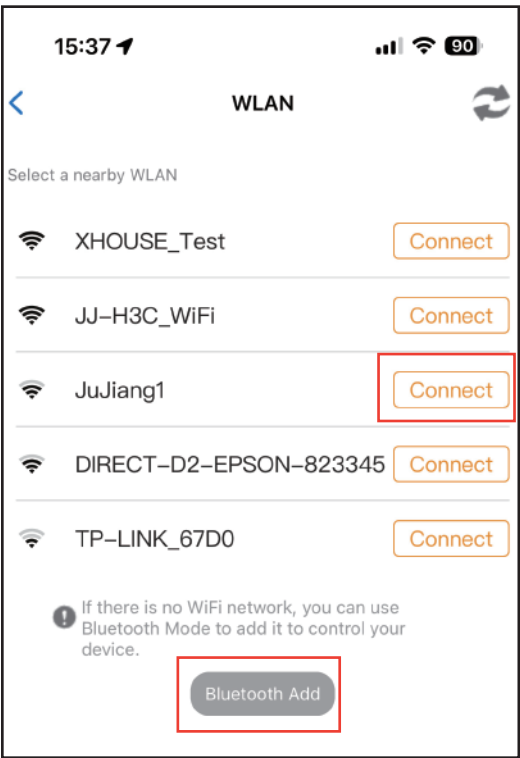
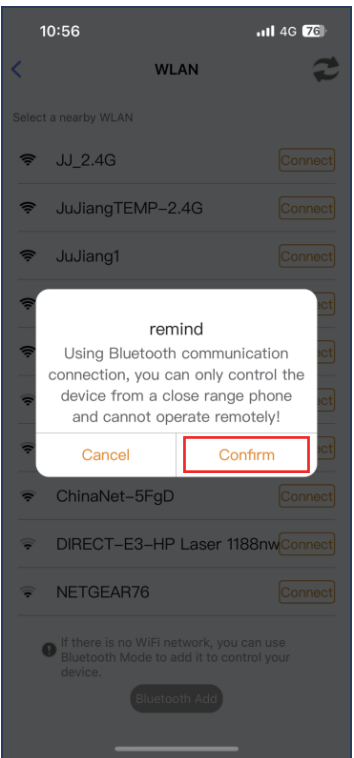

Fig 3
Fig 4
Step 2. Select the Wi-Fi, click the "Connect" and enter the password.(Fig 3)
Step 4. Bluetooth Add: If the WiFi network is failure, you can choose the Bluetooth Add. When using Bluetooth mode control the device, the mobile app must be closed to the device within Bluetooth range for about 10m to connect and control it. (Fig 3 and Fig 4).